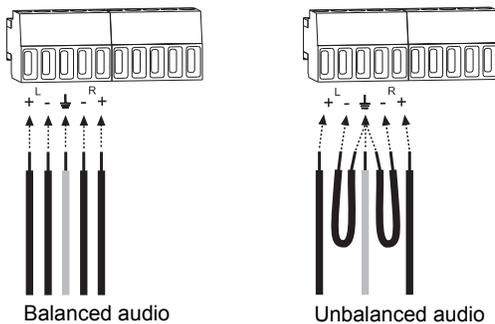

FIG. 59 Balanced and unbalanced stereo audio wiring
2. Insert the wires (for wire placement for balanced and unbalanced audio, see FIG. 59) and firmly re-tighten the clamps to make secure connections.
Note: For stereo audio signals using twisted-pair wire, connect the shield (ground) only at one end (recommend receiving end) to minimize low frequency noise (FIG. 59 on page 101).
Source devices will require either balanced (differential) or unbalanced (single-ended) connections. Options for wiring between the sources and the input connectors are illustrated in FIG. 59 below. More than one of these options can be used in the same system. For balanced and unbalanced wiring details, see FIG. 58 on the previous page.